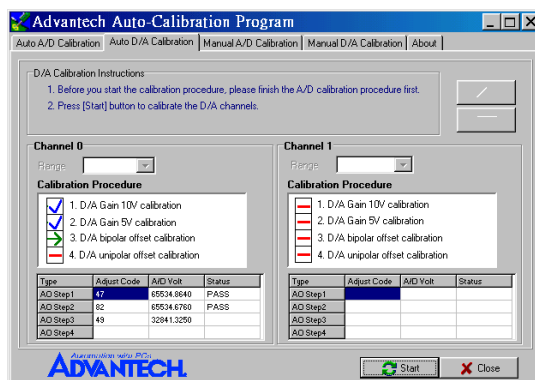

Figure 5-12: Calibrating D/A Channel 0
Step 10: D/A channel 0 calibration is enabled (Fig. 5-12)